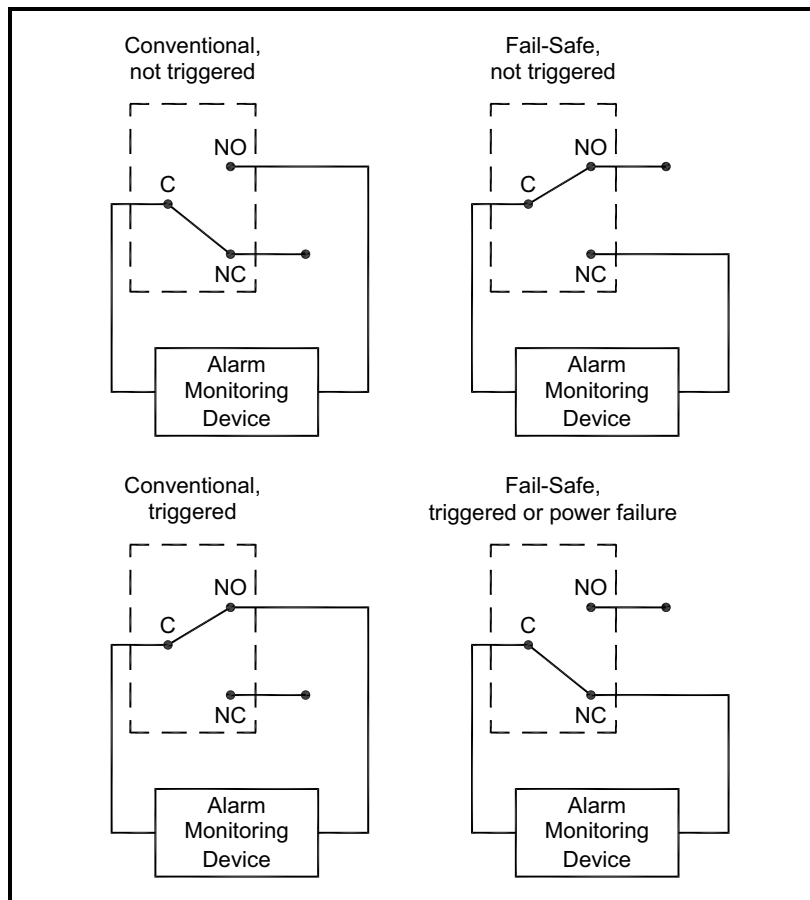
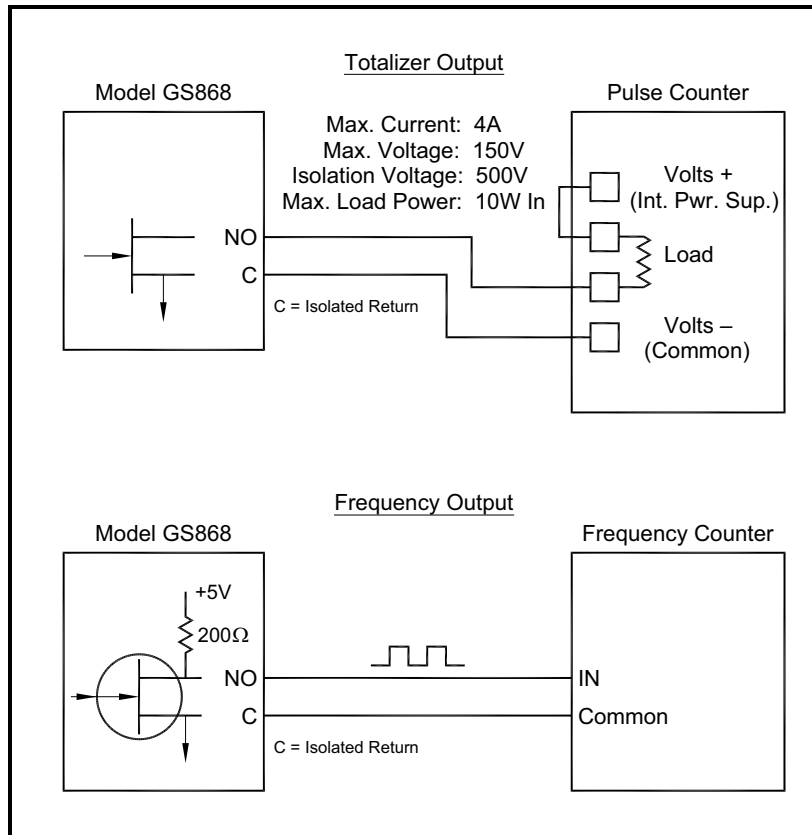
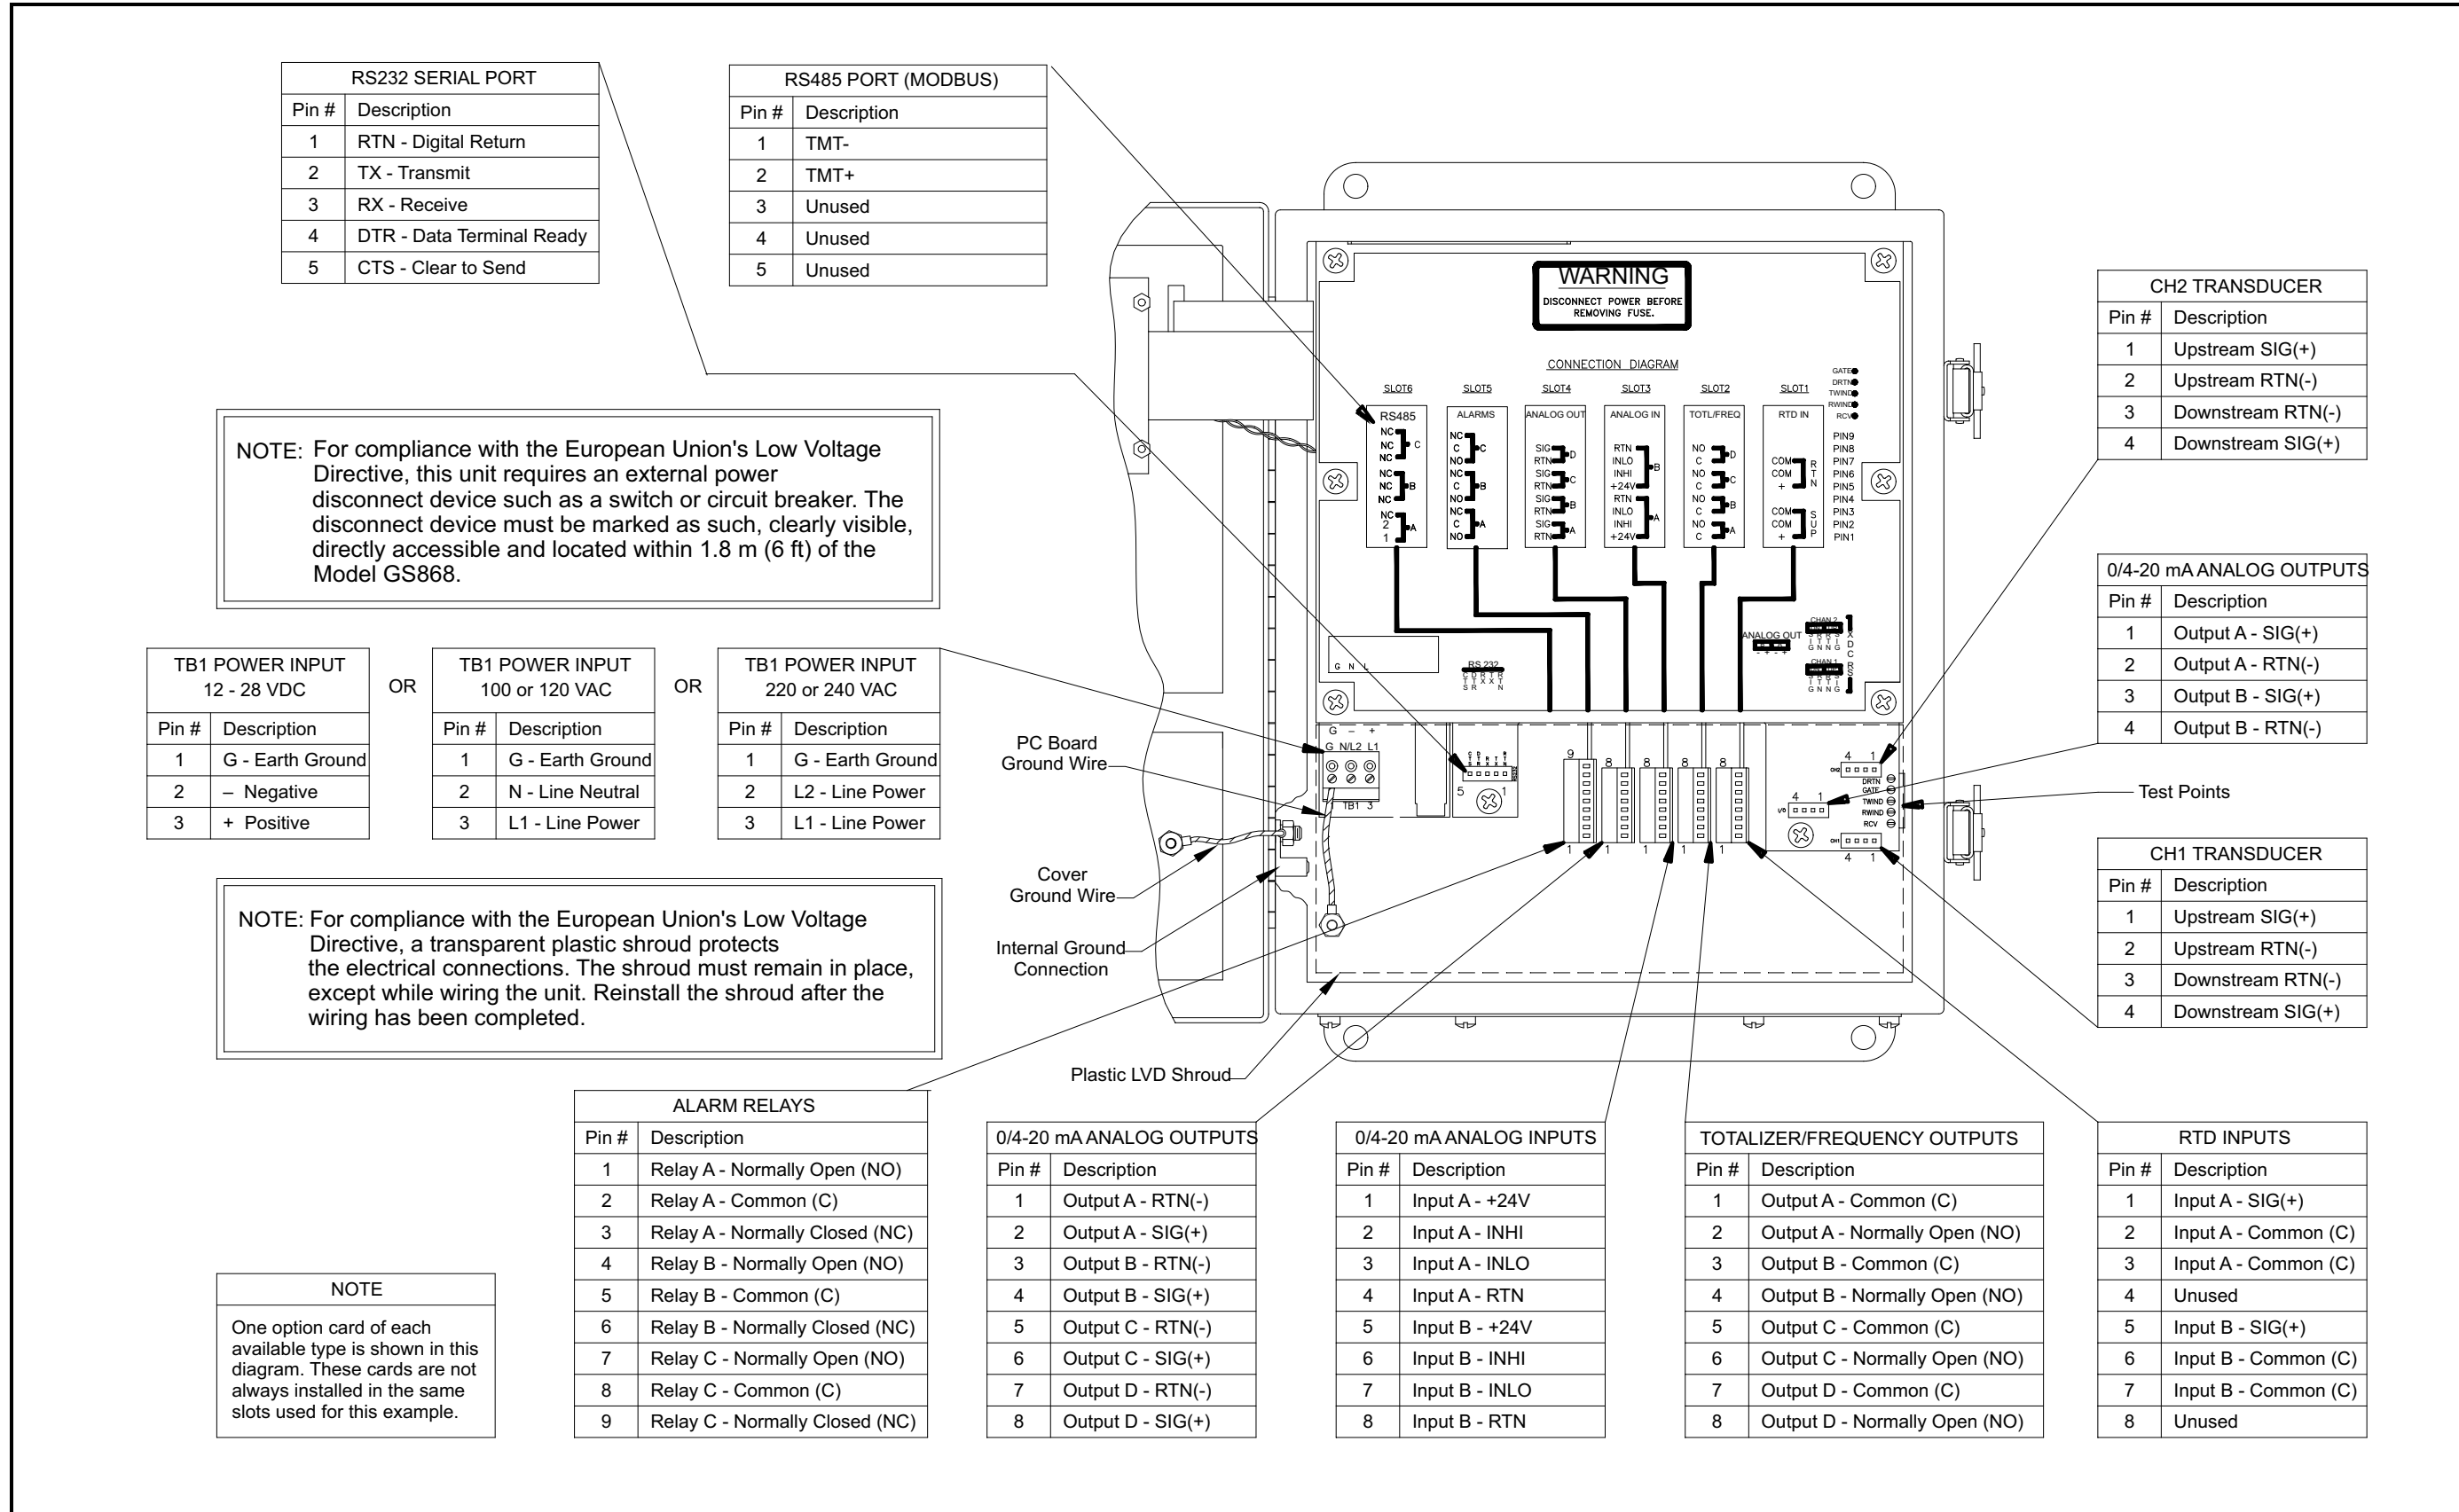

Figure 6: Conventional and Fail-Safe Operation
Figure 8: Totalizer/Frequency Outputs Wiring
Figure 10: Model GS868 Electronics Console Wiring (ref. dwg #702-213, sht 1 of 2)
3. Using the pair of coaxial cables with BNC to flying lead connectors supplied by the factory (or equivalent cables), connect the preamplifier to terminal block CH1 in the electronics console. Refer to Figure 10 on page 20 for the location of the terminal block and the terminal block pin assignments.
Refer to Figure 10 on page 20 for the location of terminal block I/O and wire the terminal block as shown.
The RS232 serial interface is wired as Data Terminal Equipment (DTE), and the signals available at the Model GS868 RS232 terminal block are shown in Table 1 below. Refer to Figure 8 on page 16 to locate terminal block RS232 and complete the following steps to wire the terminal:
To wire the RS485 serial port, refer to Figure 10 on page 20 and complete the following steps:
In setting up an alarm relay, it may be wired for either *conventional* or *fail-safe* operation. In fail-safe mode, the alarm relay is constantly energized, except when it is triggered or a power failure or other interruption occurs. See Figure 6 below for the operation of a NO alarm relay in both conventional and fail-safe mode.
Connect the two wires required for each alarm relay in accordance with the pin number assignments shown in Figure 10 on page 20.
Wire the analog input terminal block in accordance with the pin number assignments shown in Figure 10 on page 20. The standard Model GS868 has at least one analog inputs option card, which is used to supply the live pressure reading required for accurate mass flow calculations. These option cards are identical to the temperature/pressure card described above and they should be wired in the same manner (see Figure 6 on page 14).
Each totalizer/frequency output requires two wires. Wire the terminal block in accordance with the pin number assignments shown in Figure 10 on page 20. Figure 8 below shows sample wiring diagrams of a totalizer output circuit and a frequency output circuit.
The standard Model GS868 has at least one RTD inputs option card, which is used to supply the live temperature reading required for accurate mass flow calculations. Each RTD input requires three wires, which should be fed through one of the conduit holes on the bottom of the electronic console. Wire this terminal block in accordance with the pin number assignments shown in Figure 10 on page 20.
Connections to these outputs may be made with standard twisted-pair wiring. The total current loop impedance for these circuits must not exceed 1000 ohms. Wire this terminal block in accordance with the pin number assignments shown in Figure 10 on page 20.